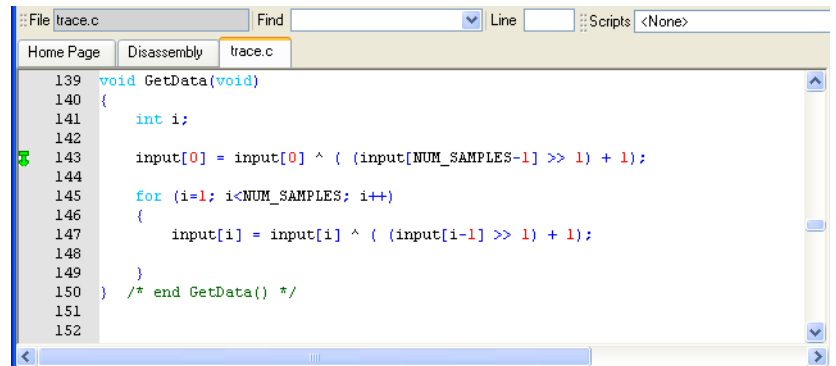

Figure 10-16 Trace Start Point set at start of a function
- e. Click **OK**. The dialog box closes, and the Trace Start Point is set as indicated by the green arrow . Figure 10-16 shows an example: